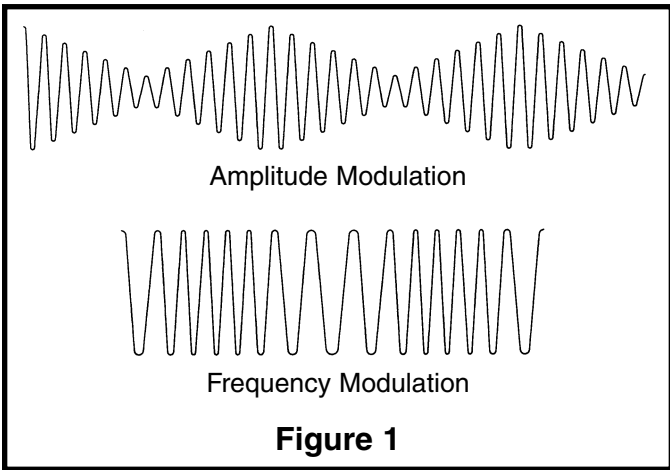

Figure 1
There are many different methods for modulating information onto a radio wave. The two most popular methods are Amplitude Modulation (AM) and Frequency Modulation (FM). Figure 1 shows the basic difference between these two methods. In an amplitude modulated radio wave, the audio information (voice) varies the amplitude of the RF carrier. To recover this information, all that is needed is a peak detector that follows the carrier peaks. This is fairly easy to understand. In a frequency modulated radio wave, the information changes the frequency of the carrier as shown in Figure 1.